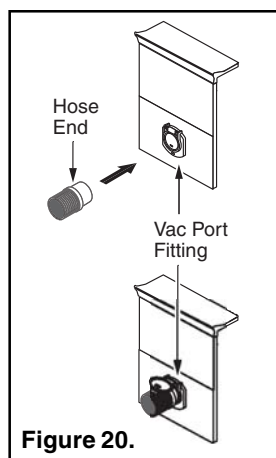

Figure 20.
6. Attach the end of the hose to the vac port fitting installed in the dedicated vacuum line, (see Figure 20).